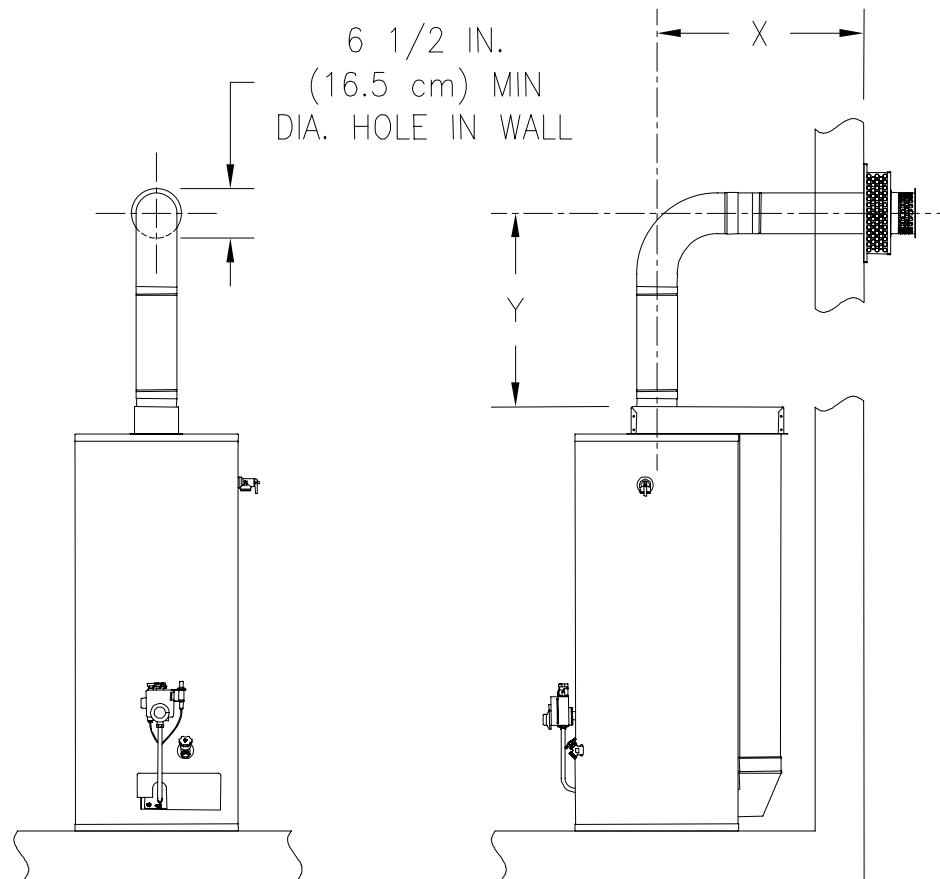

Figure 7.
1. Measure the vertical height “Y” required in your installation. (See Figure 7). Reference the appropriate Table A to determine number of vent-air intake kits required in your installation.
2. Measure the horizontal length “X” required in your installation (See Figure 7). Reference Table A to determine number of vent-air intake kits required in your installation.